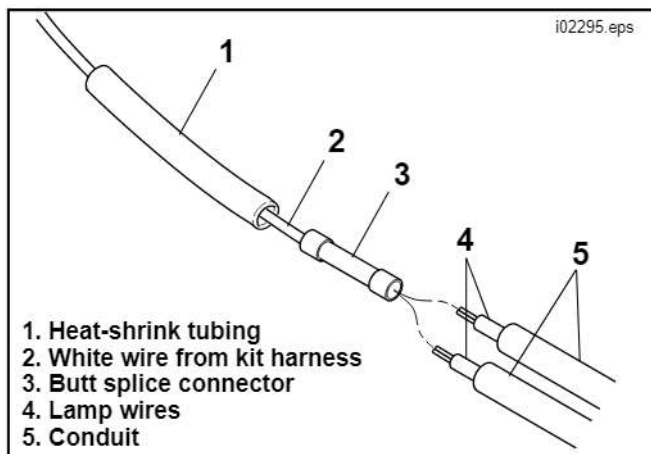

Figure 8. Connect the Lamp Wires to the Kit Harness
17. See Figures 8 and 9, and the SEALED BUTT SPLICE CONNECTORS section of the Service Manual. Slide the heat-shrink tubing (1) over the white wire (2) from the kit harness, and crimp the electrical connector (3) to the wire with a Crimp Tool (H-D 38125-8).
18. Bring both lamp wires (4) to the connector. Trim the wires, allowing approximately 1 inch (25 mm) of the wire to extend past the butt splice connector. Trim the conduit (5) approximately 1-1/2 in. (38 mm) back from the end of the wire.
20. Insert the ends of both lamp wires (4) into the electrical connector (3) and crimp the wires to the connector with the crimp tool.